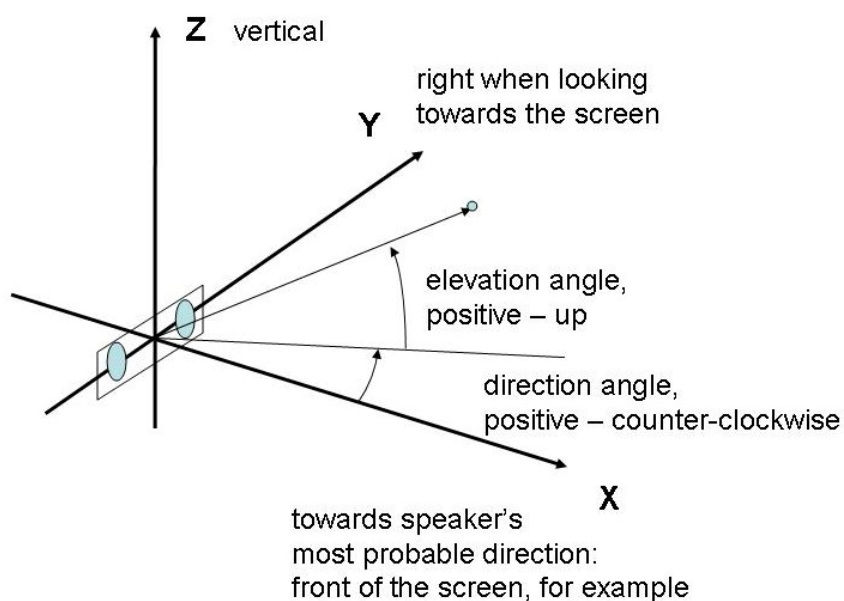

Figure 8 - Microphone Array Coordinate System
4. The coordinate system's orientation, axes, and the positive directions of the angles are shown in the following Figure 8.